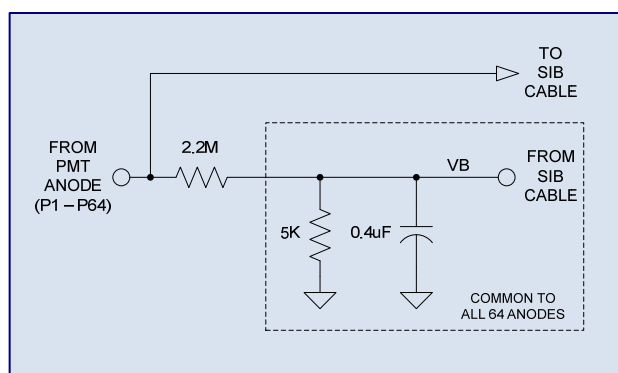

Figure 4: Anode Circuit
The 64 anode signals (P1 – P64) from the H8500D PMT are routed directly on the SIB064 to two specialized connectors referred to as sensor interface board (SIB) connectors. Anodes P1 to P32 route to SIB connector J1 and anodes P33 to P64 route to SIB connector J2. Each SIB connector mates to a proprietary low-noise, high density SIB cable assembly that carries the 32 anode signals on coaxial connections to a Vertilon PhotoniQ 64 channel PMT data acquisition system. Depending on the required speed and dynamic range, either a PhotoniQ IQSP482 high dynamic range system or an IQSP582 high speed system can be used as the main data acquisition unit. To minimize the possibility of damage due to ESD, the H8500D anodes each have a 2.2 Mohm shunt resistor to a common low impedance point. This point is biased at a voltage equal to the bias voltage (VB) of the charge integrating transimpedance amplifiers on the PhotoniQ so that the anodes can be DC coupled to them. Figure 4 below illustrates the equivalent circuit as seen by each PMT anode.